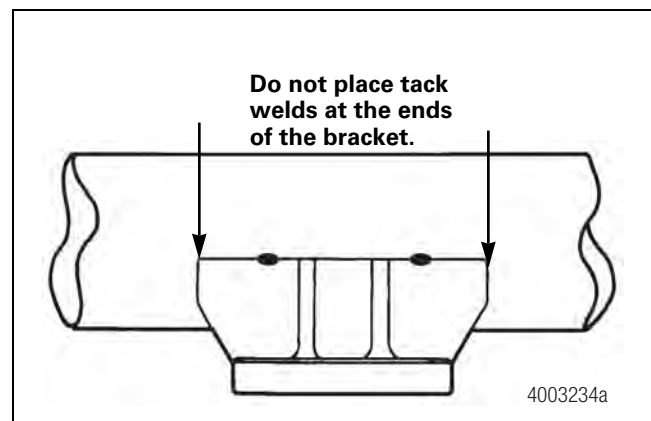

Figure 7.4
- Do not locate tack welds at the ends of the bracket. Rather, they should be located toward the center of the brackets. Figure 7.4.